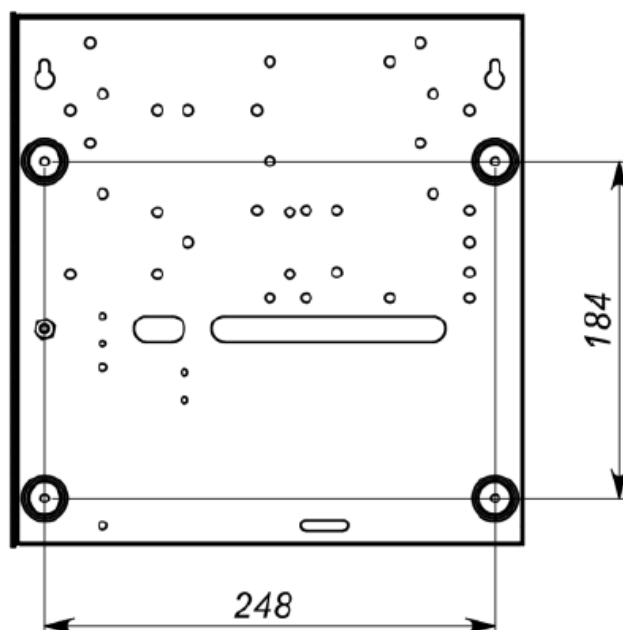

Fig. 10. Marking fixing holes
- install the access control panel on the wall (see Fig. 10), do the following: